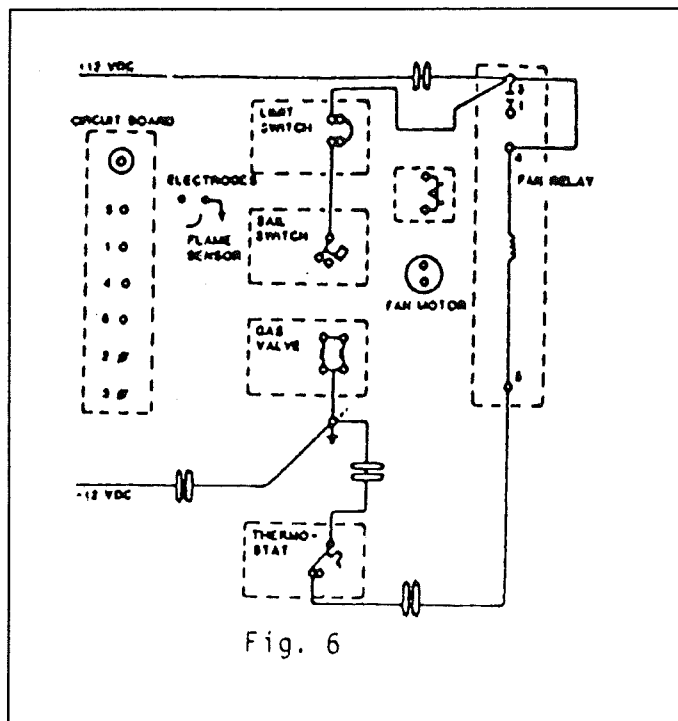

Fig. 6
- B. When the temperature inside the RV drops to the set temperature of the thermostat, the thermostat contacts close to (1) switch 12 VDC to terminal #5 of the fan relay terminal, (2) through the yellow wire to -12 VDC ground, thus the fan relay coil is energized. See Fig. 6.